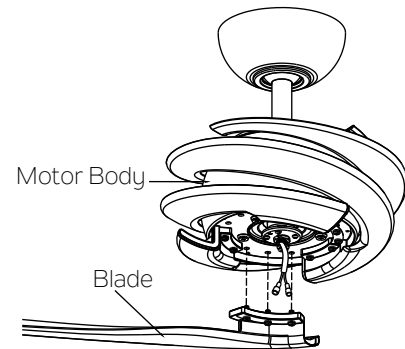

Fig. 16
Step 2. Line up the holes in the blade with the holes in the bottom of the motor body (marked B-B). Faster blade to the bottom of the motor body with two “preinstalled” screws provided. Repeat steps for the remaining blades. (Fig. 16)